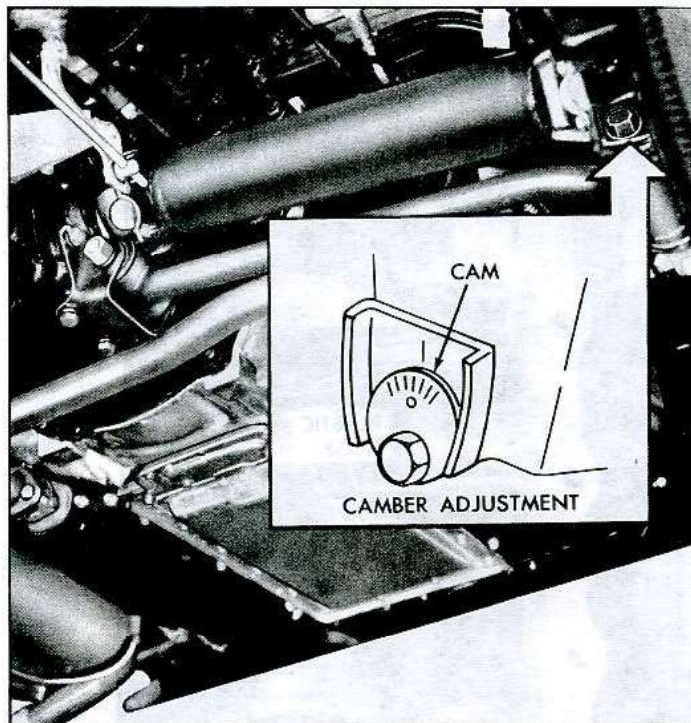

Fig. 44—Rear Strut Rod and Cam Adjustment
10. Index adjustment cam on outer end of rear strut rods (fig. 44), then loosen nut (do not turn bolt).